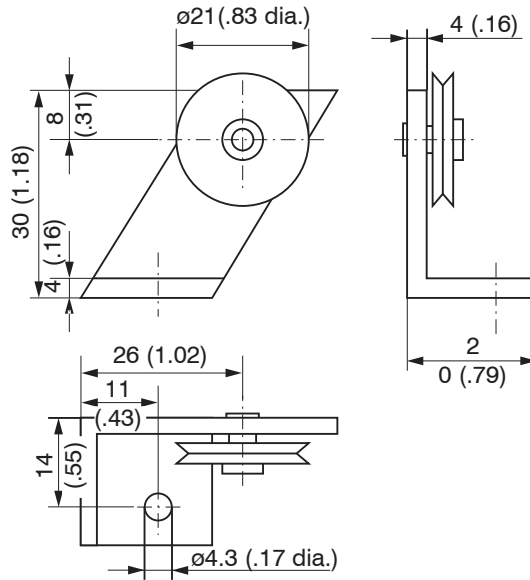

Fig. 7 Deflection pulley 3-WDS with adjustable mounting foot, dimensions in mm, not to scale
- TR3-WDS Deflection pulley, fixed, with mounting foot, see Fig. 7